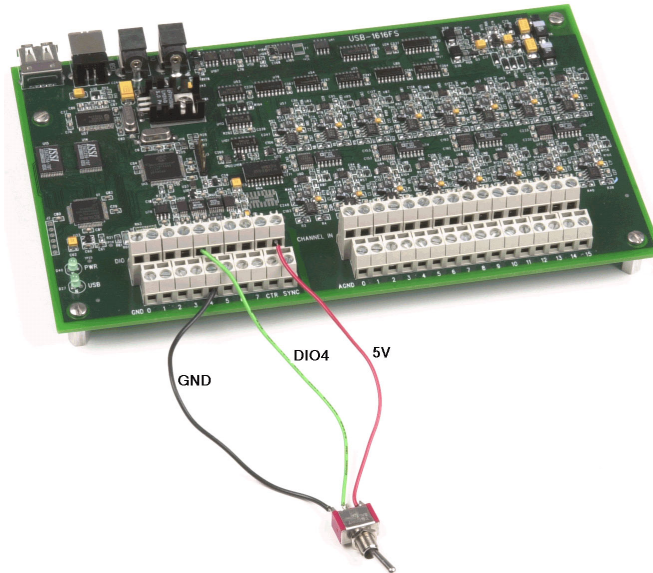
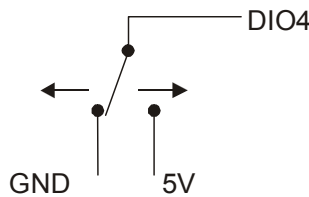

Figure 3-5. Digital connection DIO4 detecting the state of a switch
Figure 3-6. Schematic showing switch connection to digital channel DIO4
When you configure the digital bits for input, you can use the USB-1616FS digital I/O terminals to detect the state of any TTL-level input. Refer to the switch circuit shown in Figure 3-5 and the schematic shown in Figure 3-6. If you set the switch to the +5V position, DIO4 reads *TRUE* (1). If you move the switch to the GND position, DIO4 reads *FALSE* (0).